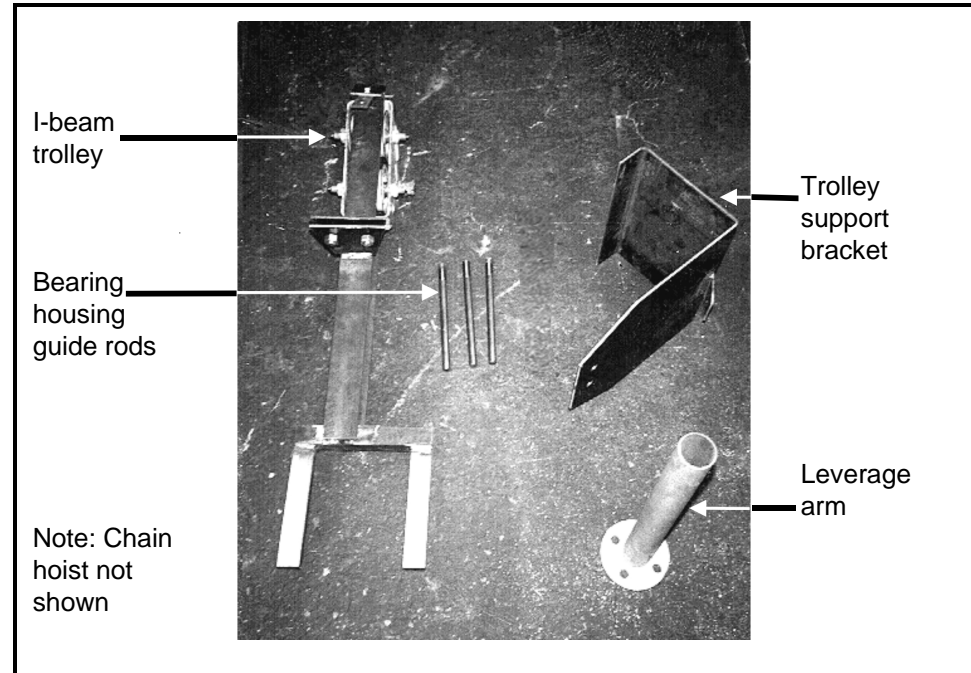

FIGURE 5 (MSSMA403AE)
1. Identify the components of this fixture as shown in FIGURE 5.